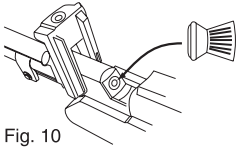

Fig. 10
- Load the gun with only one pellet from the hole as shown in Fig.10.